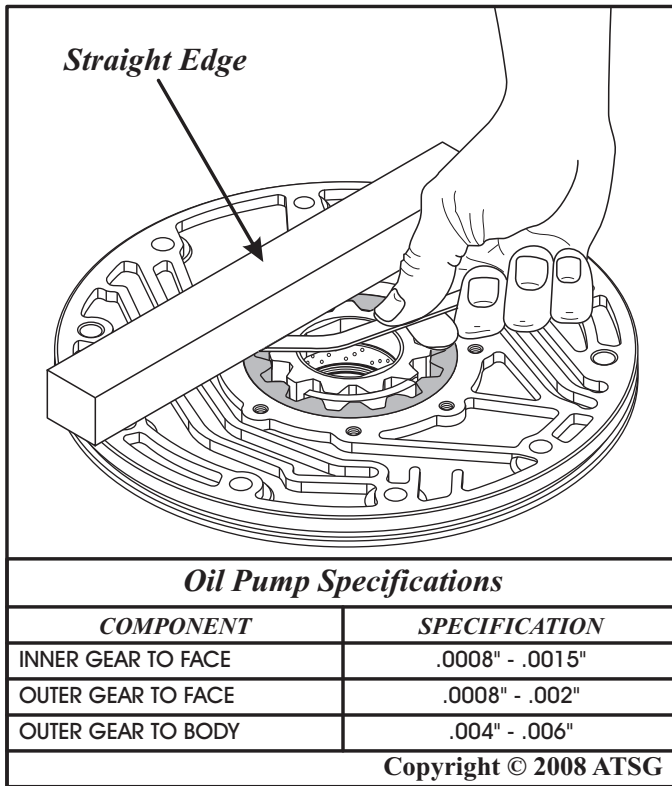

Figure 81
9. Measure the oil pump gear clearances using a feeler gauge and a straight edge, as shown in Figure 81.
Note: Pump clearance specifications are also shown in Figure 81.